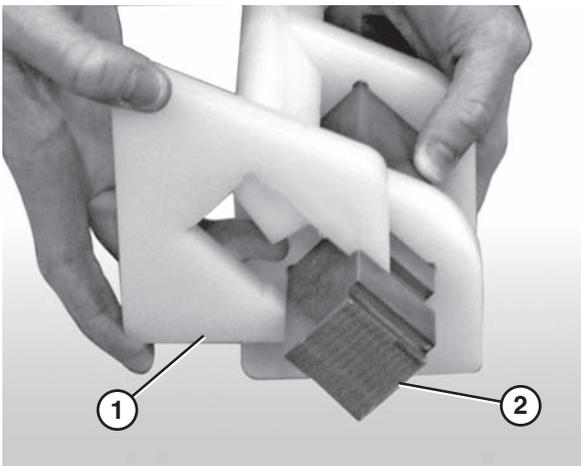

Figure 62
3. Attach the nose bar tracking pucks (Figure 62, item 1) to the nose bar drive post (Figure 62, item 2).